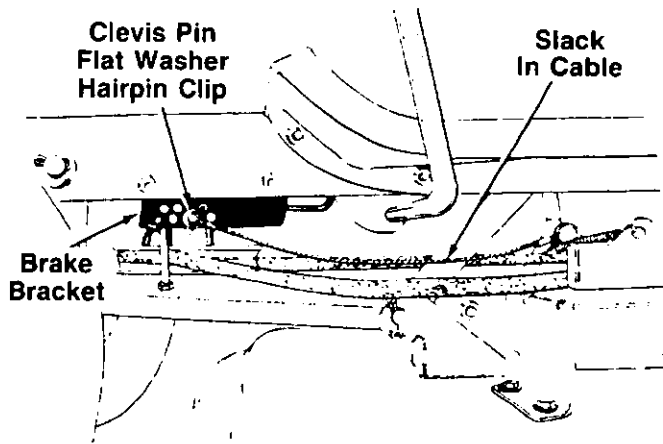

FIGURE 14.
- b. Pull the brake cable toward the front of the tractor, and line it up with a hole in the brake bracket. Then attach the cable to the next hole toward the rear of the tractor, using clevis pin, flat washer $\frac{1}{4}$ " I.D. and hairpin clip. There should be some slack in the cable as shown in figure 14.